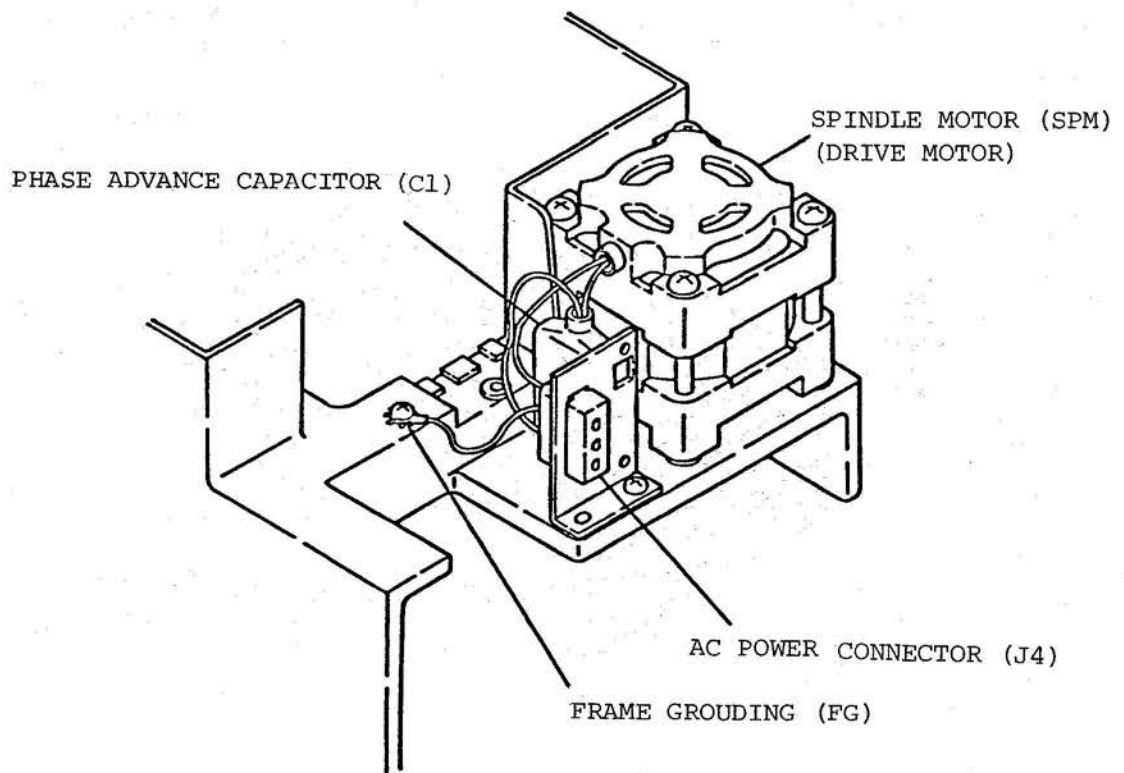

Figure 1 View "A"
- ① Types of grounds
- ③ Printed-circuit board (signal) ground (SG)
- ④ Frame grounding (FG) (See figure 1 "VIEW - A".)